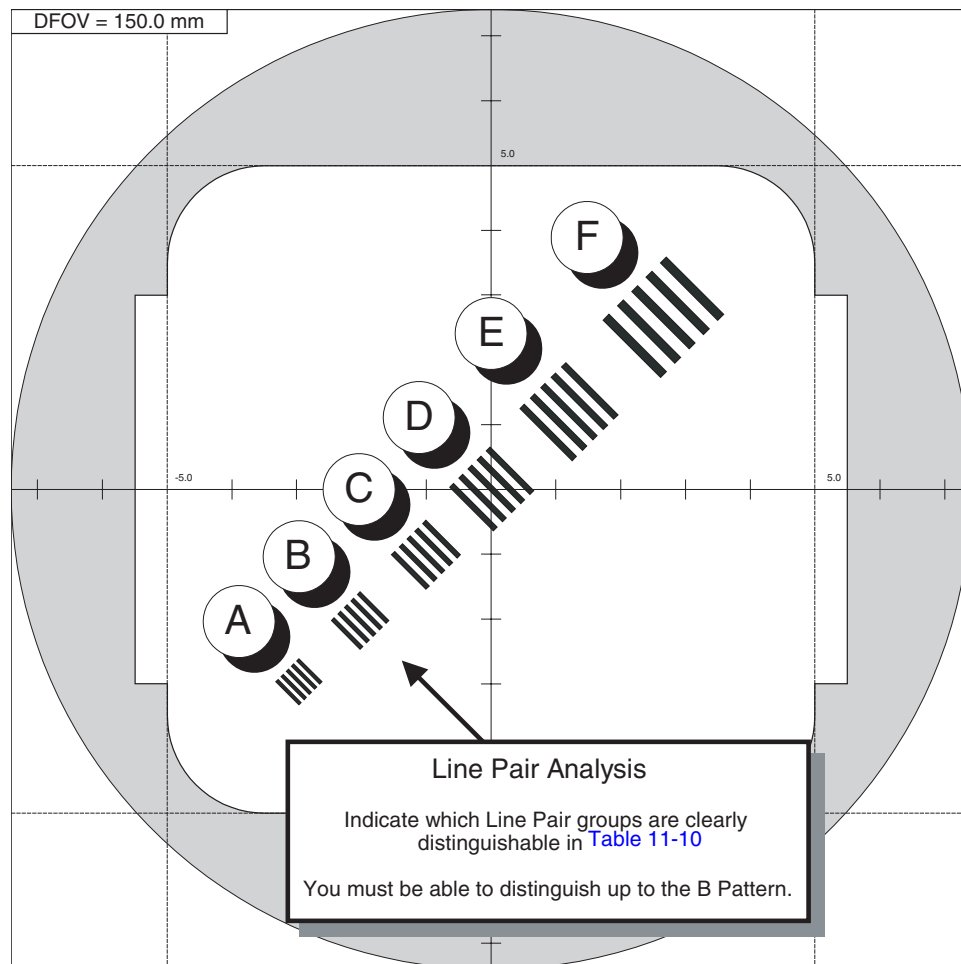

Figure 11-7 20cm QA#1 Phantom High Contrast Spatial Resolution (Visible Line Verification)
- d.) While viewing each image, indicate in Table 11-10 all the Line Pair Pattern groups that can be visually distinguished. See Figure 11-7.